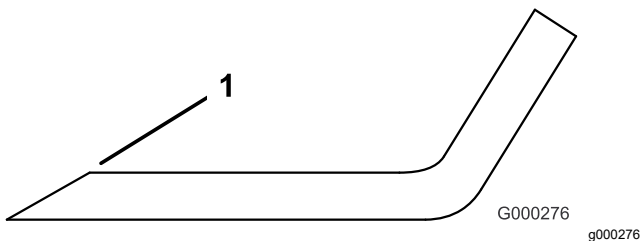

Figure 99
3. Examine the cutting edges of all of the blades and sharpen the cutting edges if they are dull or nicked (Figure 99).
Note: Sharpen only the top of the cutting edge and maintain the original cutting angle to ensure sharpness (Figure 99). The blade remains balanced if you remove the same amount of metal from both cutting edges.